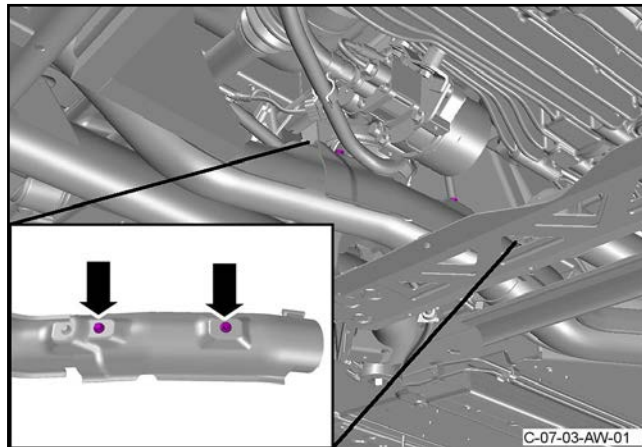

Figure 7
11. Remove the two bolts that attach the front heat shield to the rear exhaust pipe (refer to Figure 7).